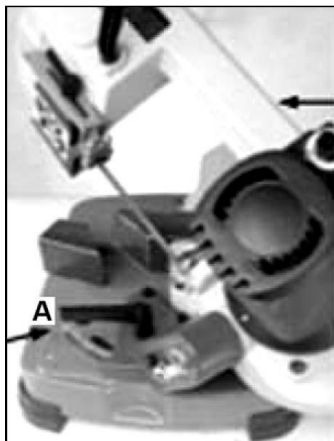

Fig 4
Loosen the clamping lever (A, fig 4). Set the saw arm to the desired cutting position (scale). Retighten the clamping lever (A).